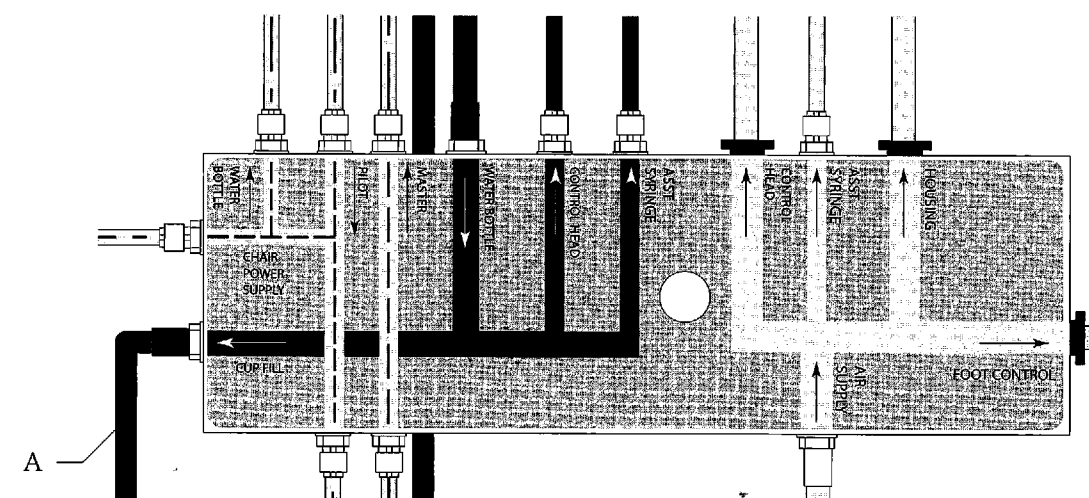

Figure 49. Cuspidor cup fill tubing attaching to the chair air/water manifold. (A) cuspidor cup fill tubing
3. Trim and attach the cup fill (3/8" blue) tubing to the cup fill barb (see Figure 49). Secure with the black tubing sleeve.